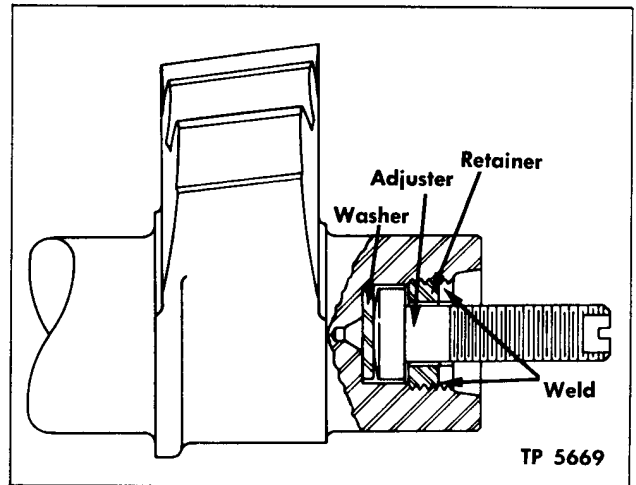

Figure 16—Installation of Lash Adjuster Screw
1. Lash adjuster retainer is tack-welded in end of Pitman shaft (fig. 16). Break tack-weld and withdraw retainer from shaft. Remove adjuster screw and thrust washer.
3. Screw retainer in tight; then back off 30 degrees to obtain correct adjustment. Tack-weld retainer at points shown in figure 16.